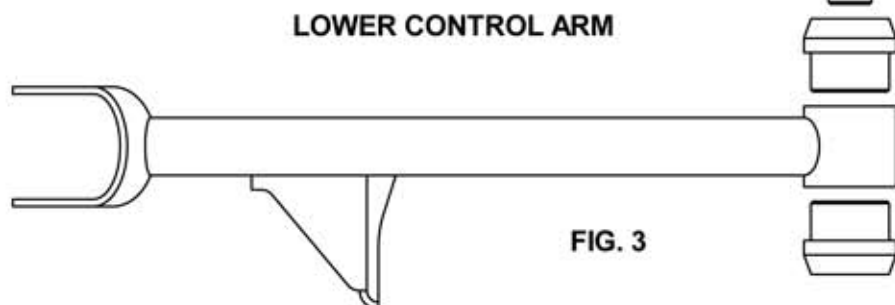

FIG. 3
- 6) Now grease and install the new polyurethane bushings 64367 into the control arm. Bushings can be installed by hand. (See Fig. 3)